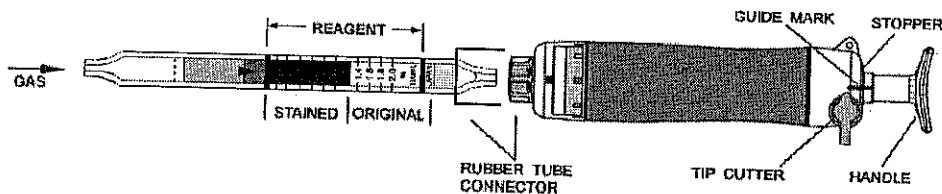

Fig.1
- ① Break both ends of the detector tube.
- ② Insert the detector tube into the aspirating pump securely as shown in Fig.1. (Arrow mark shall point to the pump.)
- ③ Align the guide marks on the shaft and stopper of the aspirating pump.
- ④ Pull the pump handle at a full stroke until it locks and wait for 3 minutes or until the completion of sampling is confirmed with the flow indicator of the pump. (See descriptions about the flow indicator in the instruction manual of the pump.)
- ⑤ On completion of sampling, read the scale at the maximum point of the stained layer.